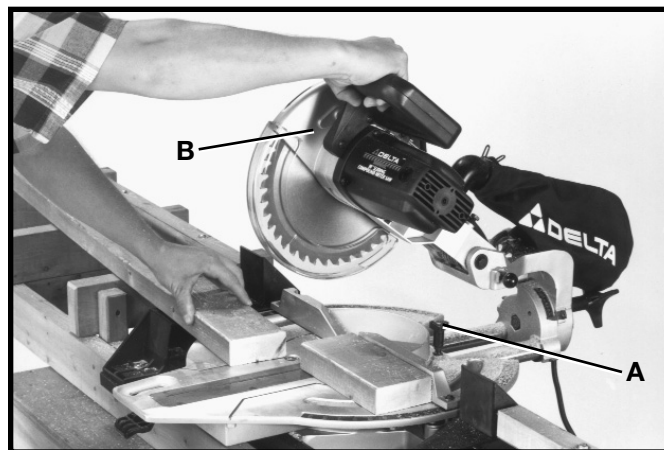

Fig. 81
The sliding action of the saw must be locked in the rear position, as shown in Fig. 81, by tightening lock knob (A), when cutting material that is narrow enough to allow the saw blade to cut through in a chopping motion. The cuttinghead (B) is pushed straight down to make the cut. After the cut is completed, release the switch trigger and let the blade come to a complete stop before returning the cuttinghead to the up position.